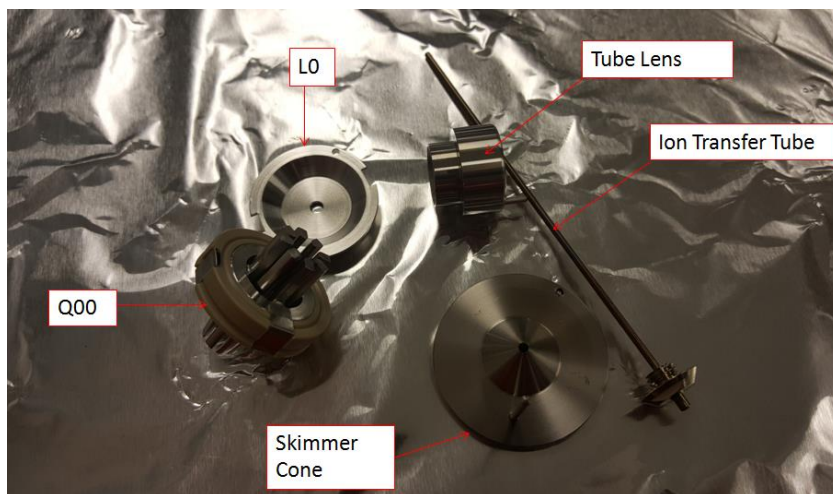

Figure 121: Optics parts
- 18) Now you should have removed all of the optics for cleaning. See Figure 121: Optics parts.